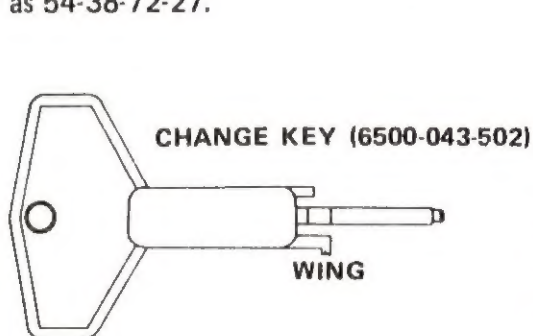

Figure 2.
2. Hold the dial with the last number at the index and insert the changing key (figure 2) in the appropriate hole in the back of the lock (figure 3) until the wing is entirely inside the lock and comes to a positive stop. (See figure 4.) Note: right hand and left hand locks have their respective change key holes.